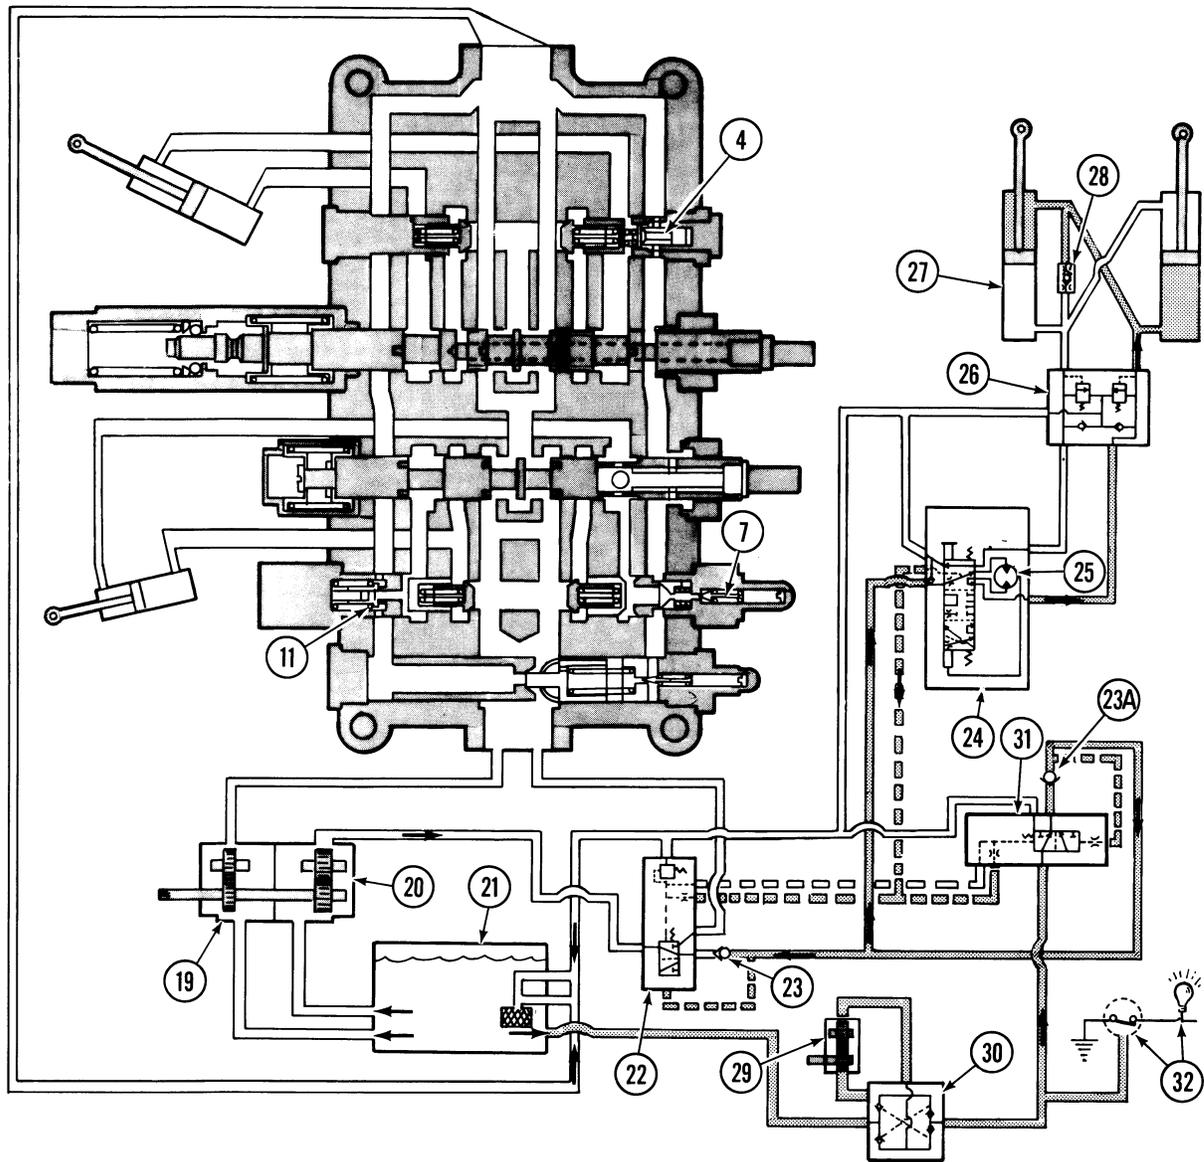

FIG. 1-3 (FR10,12) IMPLEMENT HYDRAULICS AND POWER STEERING
1.3.10 EMERGENCY STEERING CONTROL (Fig. 1-3) Special Equipment